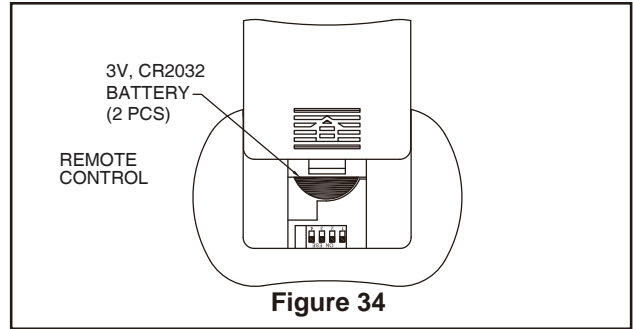

Figure 34
3. To make fan operational, install two 3-volt batteries in hand-held remote transmitter, (if not using for long periods of time, remove battery to prevent damage to transmitter). Store the remote away from excessive heat or humidity (Figure 34).